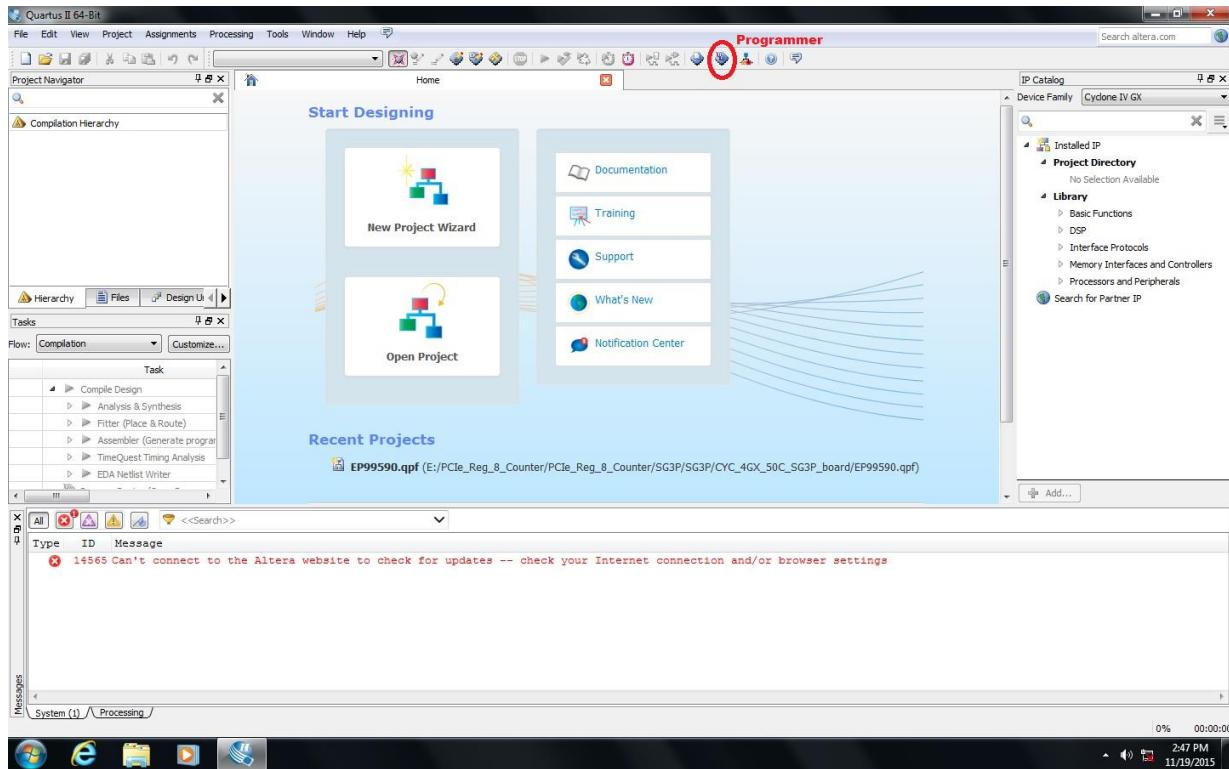

Figure 28: Quartus Starting window
- Open the Quartus Software. When it is opened, a new window appears as like figure 28.